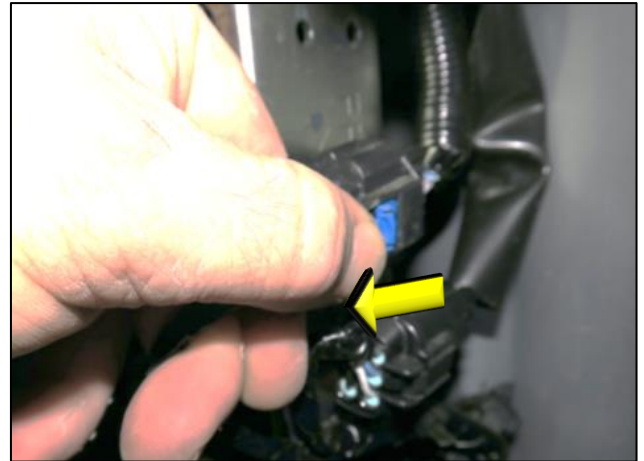

Figure 21
- Depress the release tab on the upper connector and pull rearward to disconnect (Figure 21)